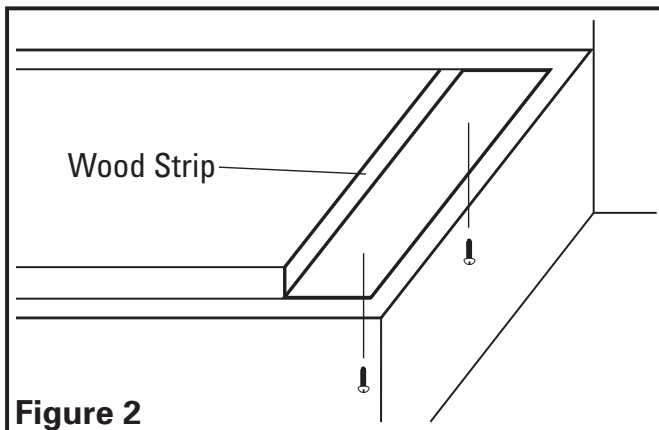

**Figure 1**
- Remove wire compartment cover screw and then lamp cover by squeezing the sides inward, removing it from the tabs located on the hood (**Figure 1**).